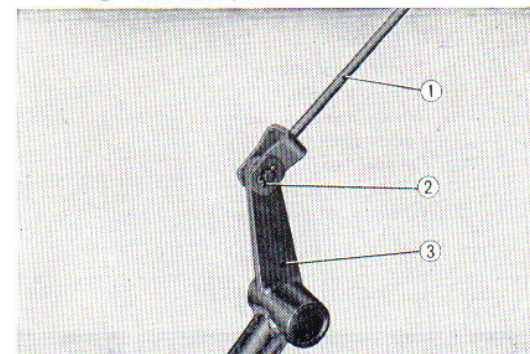

Fig. 4.50
2. Join the brake rod and brake pedal with the rod joint pin and cotter pin. (Fig. 4.50)